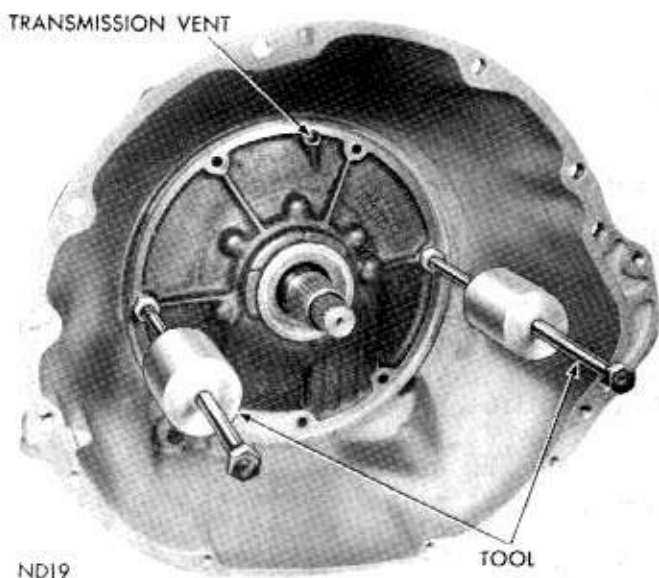

Fig. 34—Removing Pump and Reaction Shaft Support Assembly
(1) Tighten front band adjusting screw until band is tight on front clutch retainer. This prevents clutch retainer from coming out with pump which might cause unnecessary damage to the clutches.
(2) Remove oil pump housing retaining bolts.
(3) Attach Tool C-3752 to pump housing flange, (Fig. 34), in threaded holes in the flange.
(4) Bump outward evenly on the two "knocker weights" to withdraw pump and reaction shaft support assembly from the case.